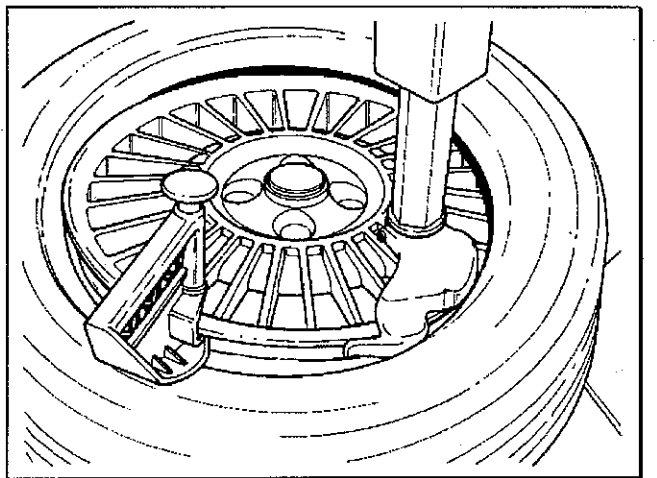

Fig.24
C. Mount the upper bead following the directions in section B. With low profile tires the bead depressor tool (option #4003444 Fig.24) can help to ease the mounting of the top bead.